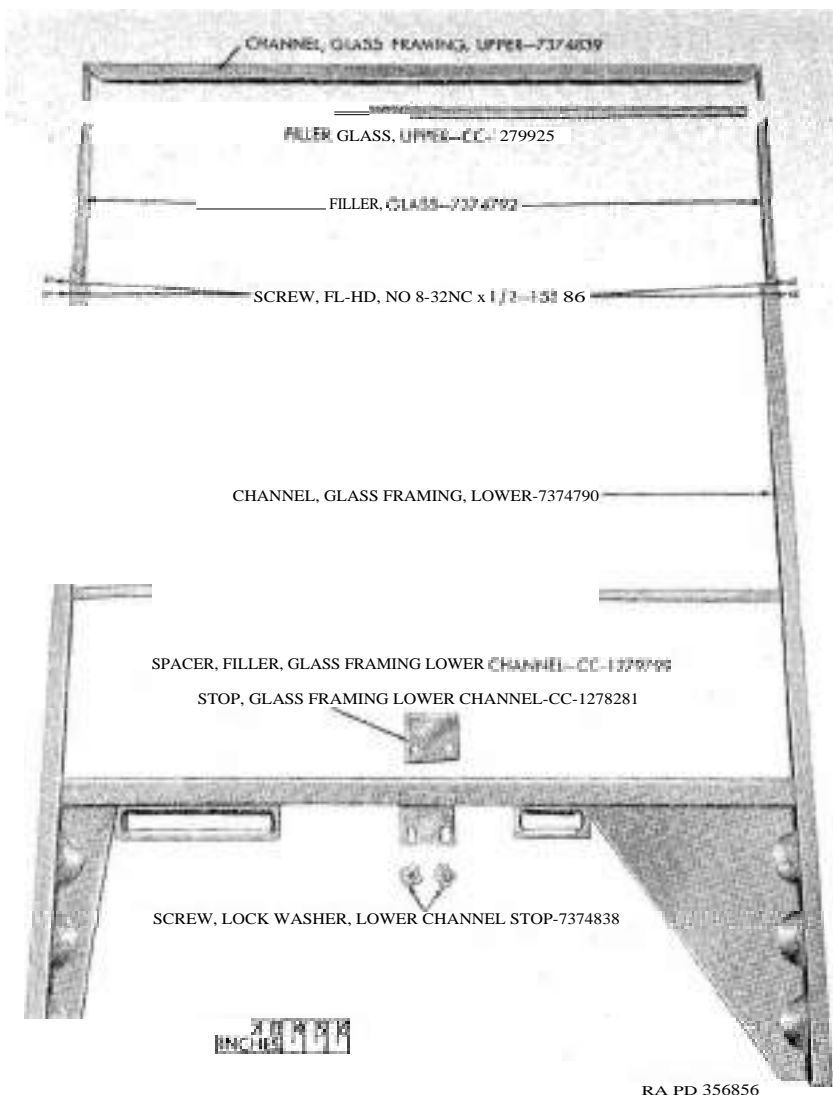

Figure 183. Doer glass framing channels and related parts.
- (3) Remove and discard glass upper filler and glass filler.
j. *Remove Glass Framing Lower Channel Filler Spacer* (fig. 183). Remove glass framing lower channel filler spacer from glass framing lower channel. Discard spacer.
- (1) Inspect female dovetail blocks (S) for wear or cracks. If either of these conditions exist, replace blocks.
- (2) Inspect female dovetail springs (T) for distortion or breakage. If either of these conditions exist, replace springs.
h. Inspect Door Weatherseals and Upper Hinge Pillar Weatherseals. Inspect door weatherseals (Q) and upper hinge pillar weatherseals (C) for deterioration or looseness. If weatherseals are deteriorated, install new seals. If weatherseals are loose at any point, cement them to door as required.
i. Inspect Glass, Glass Framing Upper Channel, and Glass Framing Lower Channel (fig. 183) .
- (1) Inspect glass for cracks or discoloration. If glass is cracked or there is evidence of discoloration, replace glass.
- (2) Inspect glass filler and if there is evidence of water leakage, replace filler.
- (3) Inspect glass framing upper channel and glass framing lower channel for damage, corrosion, broken welds, or distortion. If any of these conditions exist, replace channels as required.
or glass tramming lower channel (fig. 183).